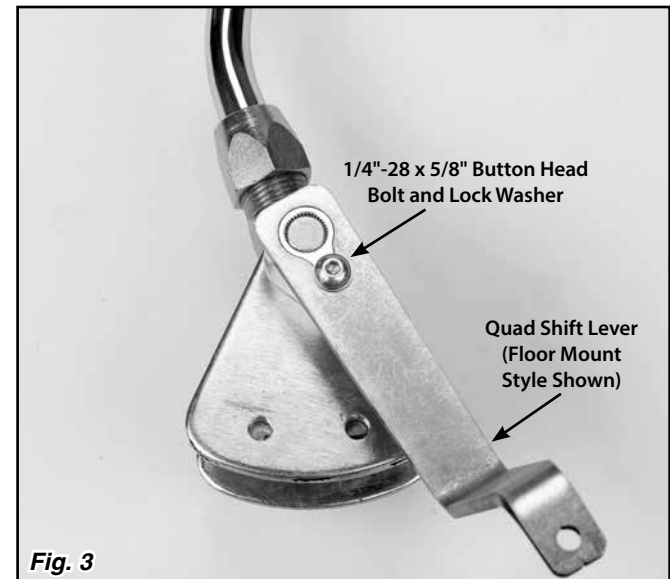

Fig. 3
**Step 2:** Place the quad shift lever onto the bushing as shown in **Fig. 3**. Install the 1/4"-28 x 5/8" button head bolt and lock washer into the quad lever bushing, and tighten with a 5/32" Allen wrench.